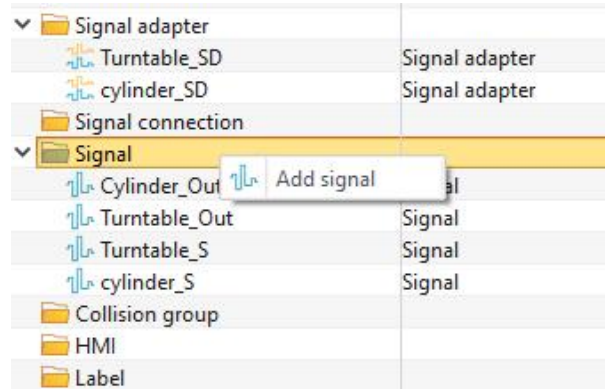

Figure 13-32: Add signal
- Open the "Signal" window and select "Add Signal".(Figure 13-32)